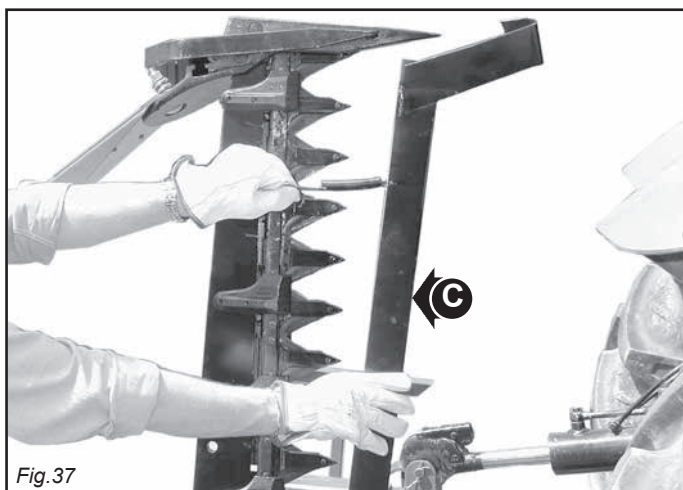

Fig. 37
- Fit the guards over the cutters and outer skid (C, Fig. 37)